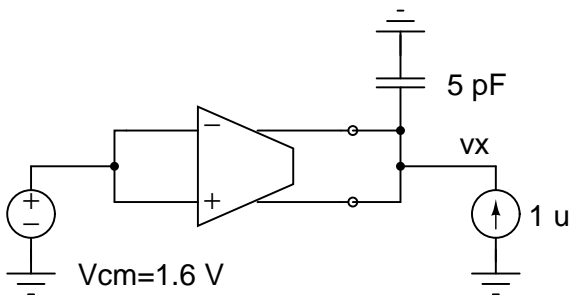

Figure 3: Suggested test-bench to measure common-mode stability.
4. Simulate the common-mode stability of the transconductor using the test-bench of Figure 3. What can you deduce from the nature of the response at node vx?